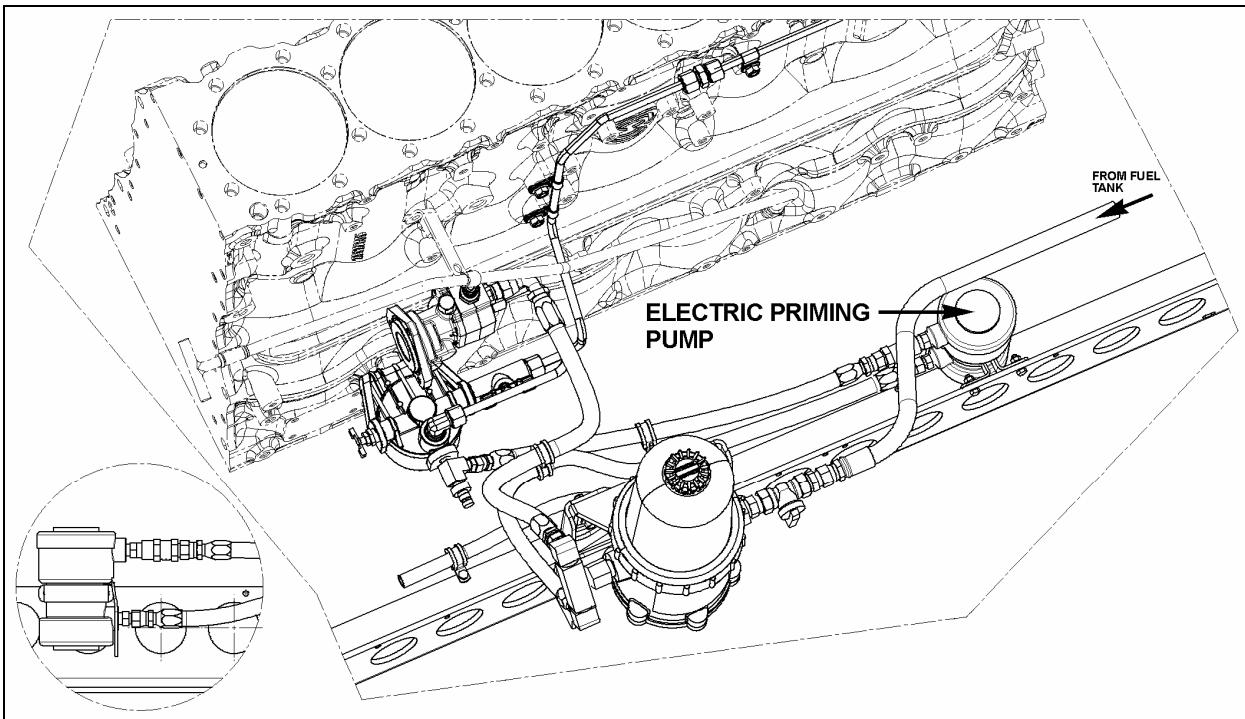

FIGURE 4: FORMER INSTALLATION
- As mentioned before, remove the pump from the engine cradle (Refer to figure 4).